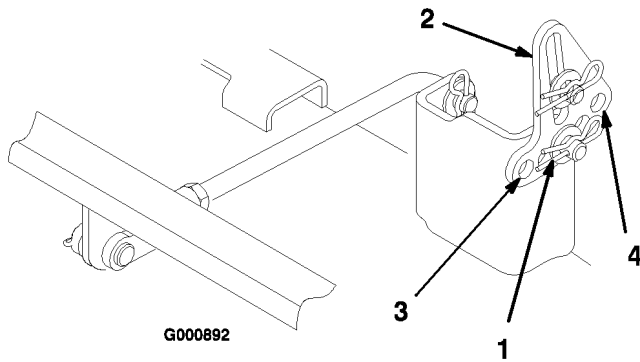

Figure 42
5. Remove the hairpin cotter and washer from the leveling bracket (Figure 42). To level the blade(s), reposition the leveling bracket(s) in
a different hole and install the washer and hairpin cotter. (Figure 42). A front hole lowers the blade height and a rear hole raises its height. Adjust both sides as required.